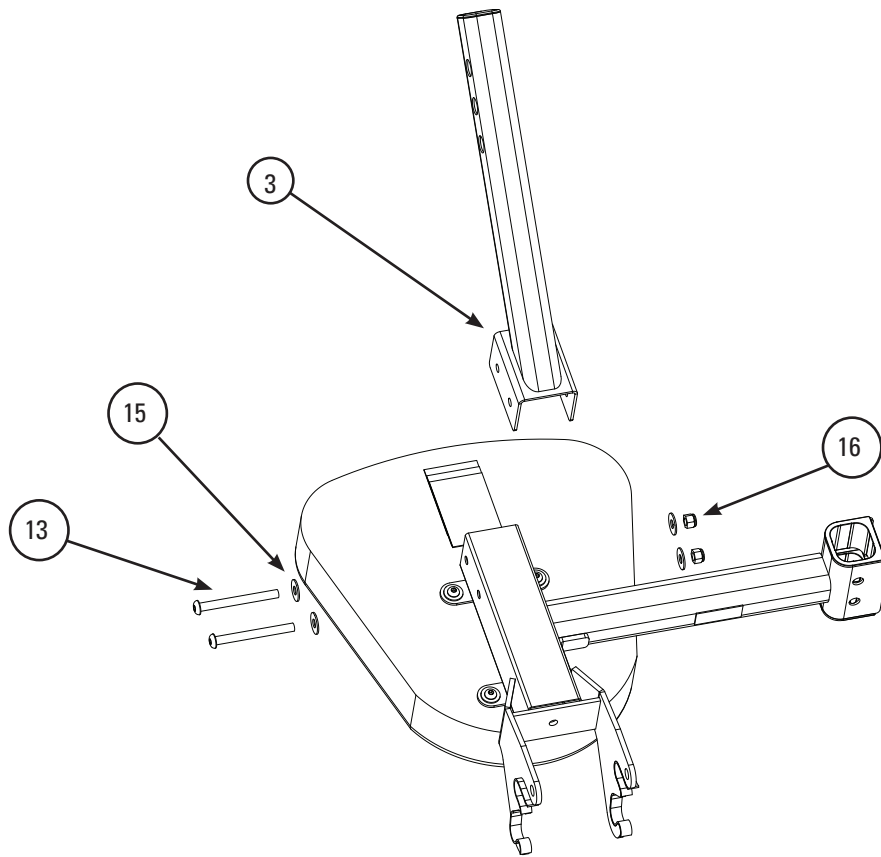

Figure 2
- 2-1 Attach the Leg Extension (3) to the Seat Assembly with the hardware shown. See **Figure 2**.